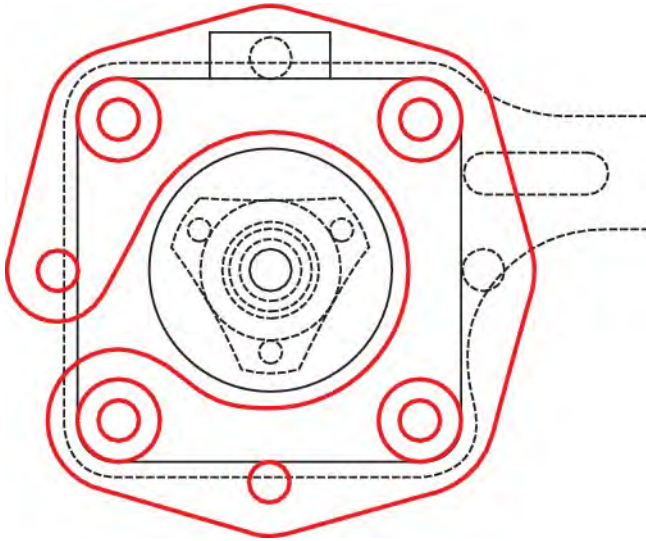

Figure 6-15. Part M can have its edges trimmed away but it's not required.
Finally, Figure 6-15 shows how Part M looks when cut out with Patrick's CNC machine. It's no longer square-shaped as many of its edges have been shaved down. Feel free to modify your Part M if you like, but the square version of Part M will work just fine in the final 3D printer assembly.
■ **Note** Go wild! If you choose to modify Part M, the top edge of the part (as shown in Figure 6-15) is the only side of the part that should maintain close tolerance to its dimension as this side will come close to the top of the ZY plate.